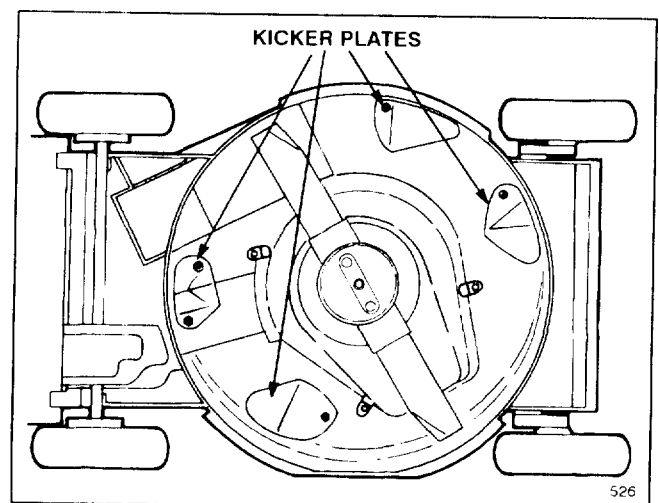

Figure 30
Keep underside of mower housing clean (Fig. 30). Be especially careful to keep kickers on underside of mower housing free of debris.
3. Tip mower on its left side (Fig. 30). Avoid rotating blade because starting problems may result.